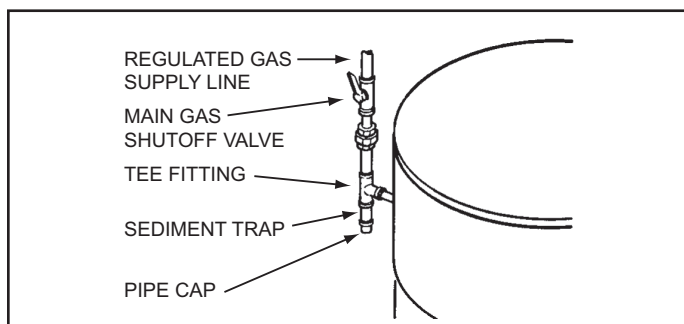

Figure 54
Ensure all gas pipe is clean on the inside before installation. To trap any dirt or foreign material in the gas supply line a sediment trap must be installed as shown in Figure 54. The sediment trap must be readily accessible and not subject to freezing conditions. Install in accordance with the recommendations of the local gas utility company.
7. Install a sediment trap as shown in Figure 54 on page 40.
8. Install a Main Gas Shutoff valve in the supply gas line as shown in Figure 54 on page 40.
1. For test pressures exceeding 1/2 psi (3.45 kPa) disconnect the water heater and its Main Gas Shutoff Valve from the gas supply piping system during testing, see Figure 54 on page 40. The gas supply line must be capped when disconnected from the water heater.